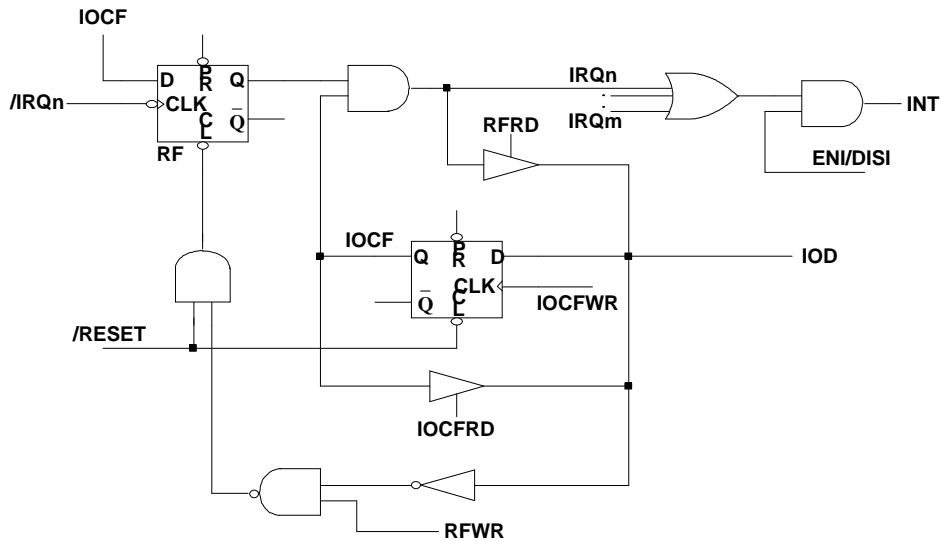

Figure 6-10 Interrupt Input Circuit
The flag (except ICIF bit) in the Interrupt Status Register (RF) is set regardless of the status of its mask bit or the execution of ENI. Note that the outcome of RF will be the logic AND of RF and IOCF (refer to Fig. 6-10). The RETI instruction ends the interrupt routine and enables the global interrupt (the execution of ENI).